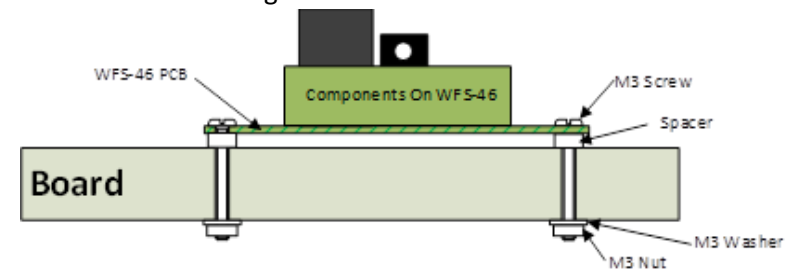

Figure 6 Mounting Suggestion
- (2) You will see the Main Menu page as below:
- (3) To test the switch machine channels, click or tap the Switch Machine Channels option. You will see the screen below. The names of each channel default to the serial number plus the channel number as shown:
- (8) Mount the unit to your baseboard using the four M3 metric screws, nuts and spacers provided in the mounting kit. Mount the unit on a suitable piece of board, either your baseboard (top or bottom) or a separate board perhaps at the front of your model railroad. The component side of the module should face away from the board as in Figure 6. Take care that no part of the unit touches any metal as this may cause a short circuit and result in permanent damage. Do not mechanically stress or bend the module as this may cause permanent damage. **Take care to ensure that there is adequate ventilation to avoid overheating.**
- (9) **CHECK YOUR WIRING!** Turn on the power. If you have installed manual push buttons you may test the unit by pressing each button momentarily in turn. You can also test using a web browser on Apple IOS, Android or Windows as in the next section. Refer to the Tower Operator Quick Start, or Full Help Pages for instructions on setting up a schematic control panel using Tower Operator on your Windows or Android computer or tablet.